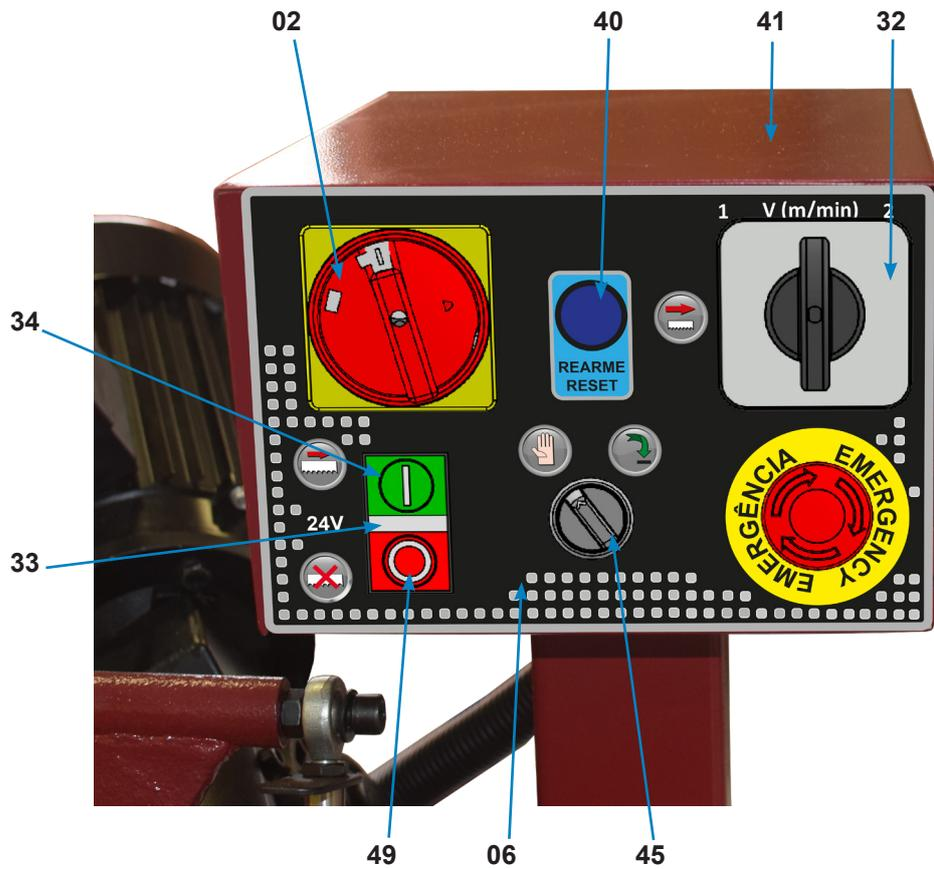

FIGURE 6.6 - COMMAND PANEL
By placing the General Switch (02) in the position **ON**, the Pilot Signaling (33) of color **WHITE** should light up, indicating that the machine is energized (figure 6.6).
To access the Command Panel (06) (figure 6.6), there is a General Switch (02), which protects the user in case of maintenance by completely disabling the electrical system.
This machine has 2 cutting speeds, which can be chosen by the Toggle Switch (32) (figure 6.6), located on the Command Panel (06) (figure 6.6).
- EMERGENCY Button (03) SB0: Located on the Command Panel (06) (figure 6.6), for any non-normal STOP requirements. This safety function is monitored by the FS1 Safety Relay;
- SB3 Reset Button (40) (BLUE COLOR): Located on the Command Panel (06) (figure 6.6), whose function is to prevent the machine from starting up unexpectedly;
- FS1 Safety Relay: Located inside the Electrical Board (41) (figure 6.6), whose function is to monitor the security devices present;
- HL1 PILOT Signaling (figure 6.6): Located in the Command Panel (06). Its function is to indicate that the commands are energized in extra low voltage (24 Vac), and the machine is ready to operate;